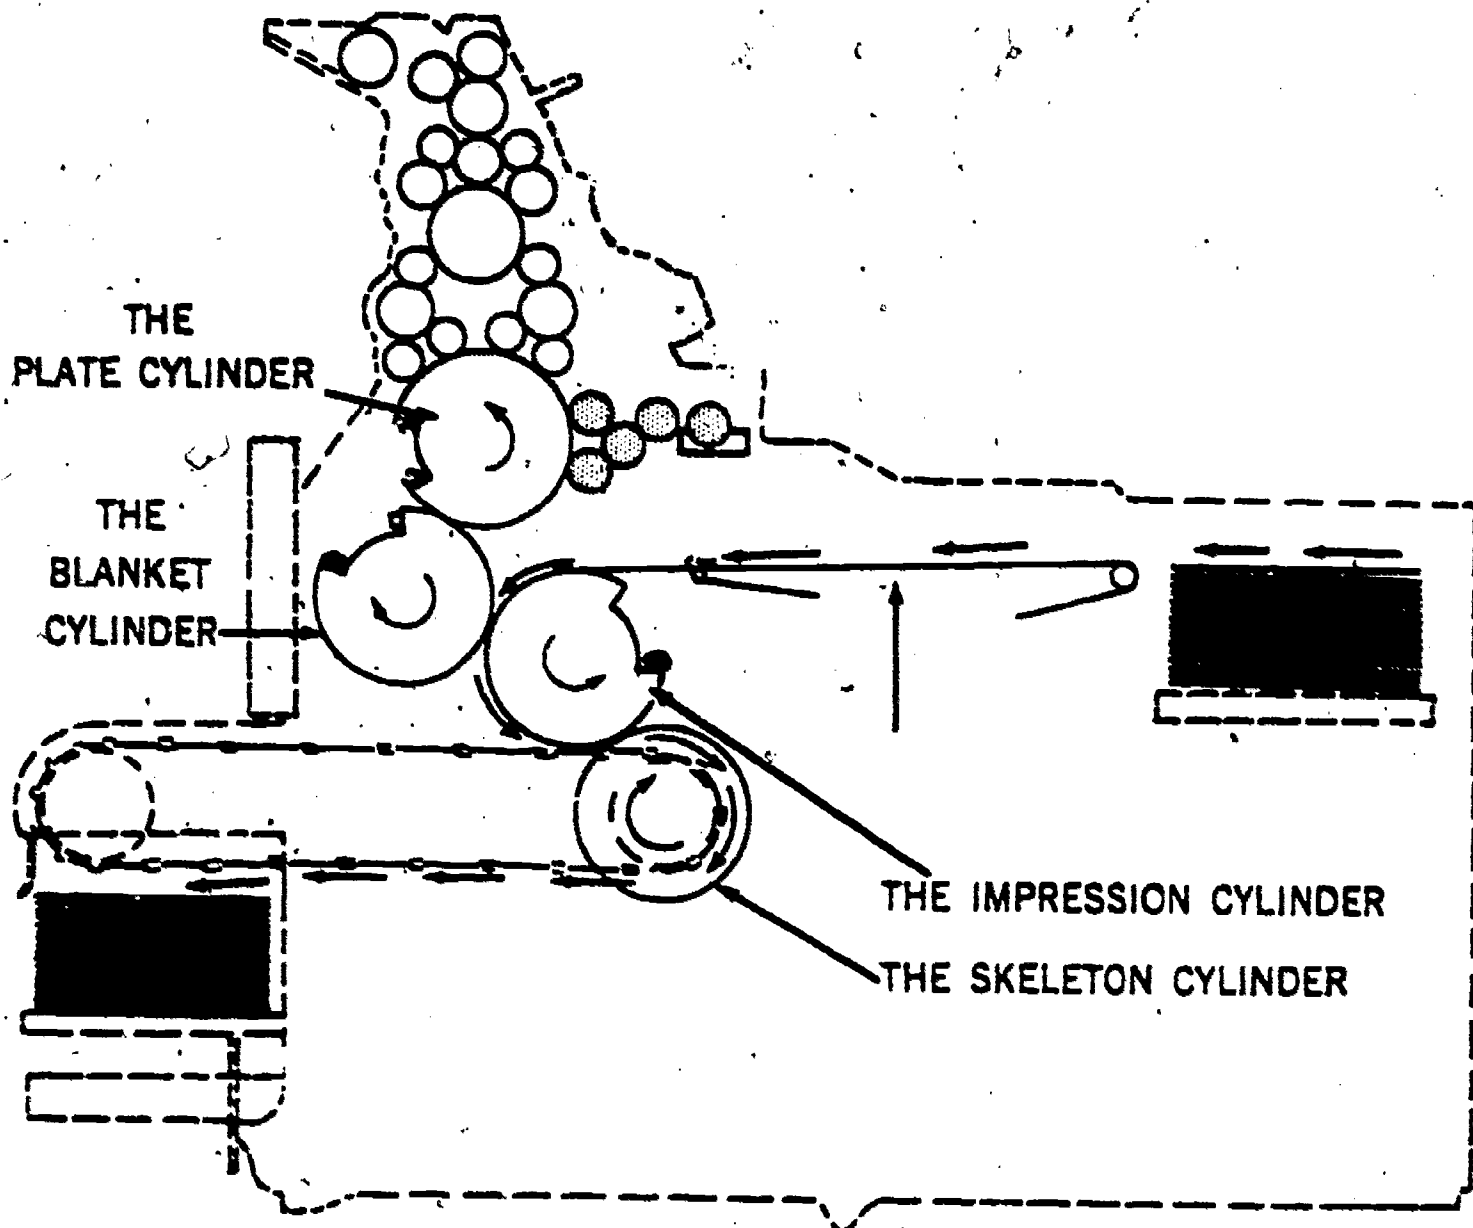

Figure 1 #A-109-57 Schematic Drawing of
- b. Paragraph 2d, Photo 2, Fig 1,2,3
- c. Paragraph 2e, Photo 3, Fig 1,2,3
- d. Paragraph 2f, Photo 4, Fig 1,2,3
- e. Paragraph 2g, Photo 5, Fig 1,2,3
- f. Paragraph 3a, Photo 6, Fig 1 and 2
- g. Paragraph 3b, Photo 7, Fig 1,2,3
- h. Paragraph 3c, Photo 8, Fig 1 and 2
- i. Paragraph 3d, Photo 9, Fig 1,2,3,4,5
- b. Paragraph 4c, Photo 11, Fig 1
- c. Paragraph 4c, Photo 12, Fig 1 and 2
- d. Paragraph 6a, Photo 14, Fig 1 and 2
- e. Paragraph 6b, c, Photo 15, Fig 1,2,3,4
- f. Paragraph 6e, f, Photo 16, Fig 1,2,3,4,5
- g. Paragraph 6f, Photo 17, Fig 1
- h. Paragraph 6g, Photo 18, Fig 1,2,3
- i. Paragraph 1,2, Photo 38, Fig 1,2,3,4,5,6
- j. Paragraph 3, Photo 39, Fig 1,2,3,4
- k. Paragraph 4, Photo 40, Fig 1,2,3,4
- l. Paragraph 4, Photo 41, Fig 1,2,3
- m. Paragraph 5, Photo 42, Fig 1,2,3
- n. Paragraph 6, Photo 43, Fig 1,2,3,4
- a. Paragraph 1, Photo 97, Fig 1,2,3,4,5
- b. Paragraph 2, Photo 98, Fig 1
- c. Paragraph 3, pg 71, Photo 101, Fig 1,2,3,4,5,6,7
- e. Paragraph 4a, b, Photo 100, Fig 1,2,3
- g. Paragraph 7, Photo 102, Fig 1,2
- h. Paragraph 9, Photo 103, Fig 1,2,3
- i. Paragraph 9, Photo 104, Fig 1,2
- j. Paragraph 10, Photo 105, Fig 1
Use Figure 1 Training Aid #A-109-57 Schematic Drawing of an Offset Press and point out the different cylinders and explain each cylinder's function.